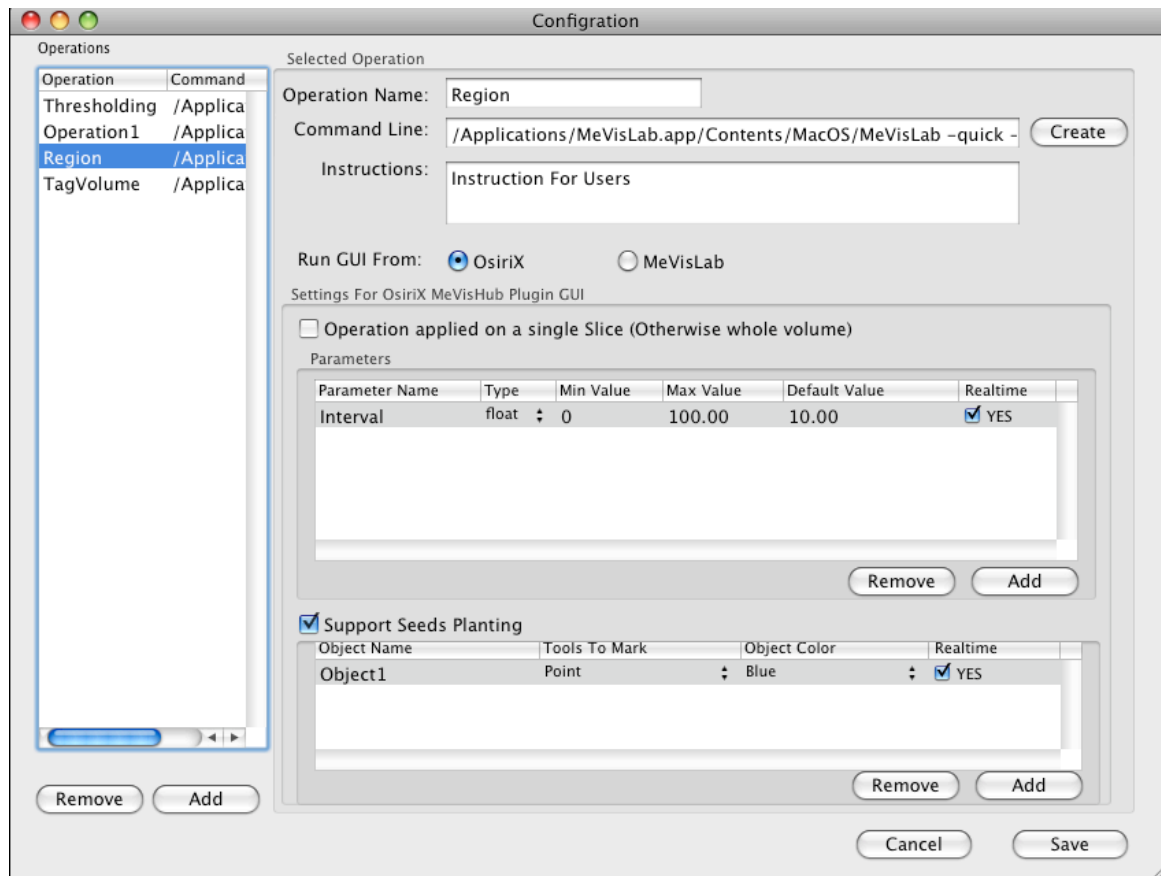

Figure 7. the configuration of MeVisLabHub.
- Choose Run GUI From OsiriX and add one parameter named “Interval”, set default value to 10.0 and check Realtime option which means updates the result in real time. (Figure 7)